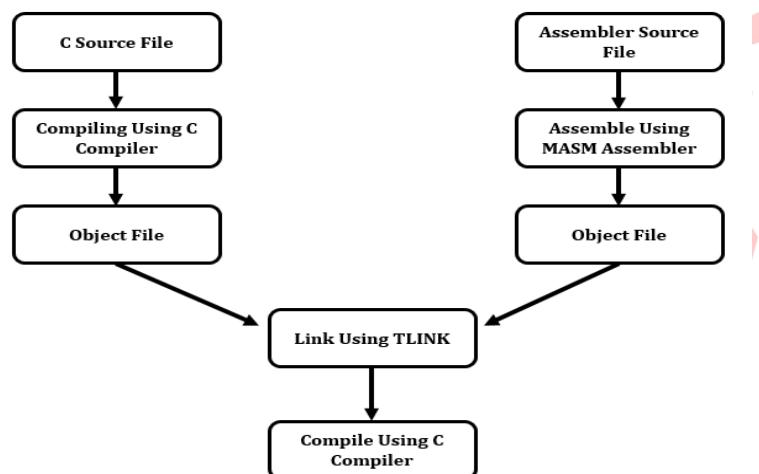

Figure 2.3: Compile, Assemble & Link processes in Mixed Language Programming.
- Figure 2.3 shows Compile, Assemble & Link processes using C Compiler, MASM Assembler & TLINK.